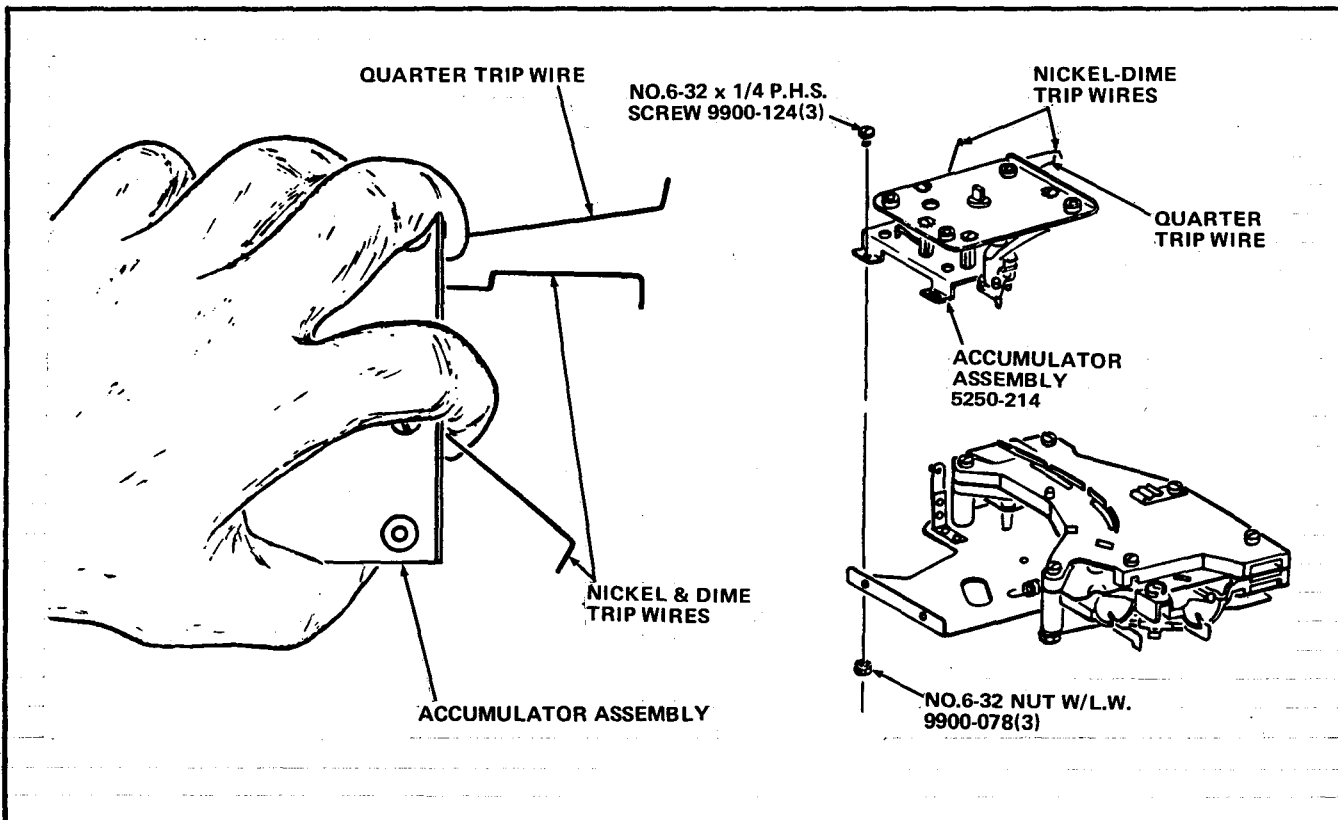

FIGURE 3
- a. Hold the Accumulator Assembly in the left hand with the index finger between the Nickel-Dime Trip Wires. The index finger will move the Nickel-Dime Trip Wire toward the bottom of the Accumulator Assembly. See Figure 3.